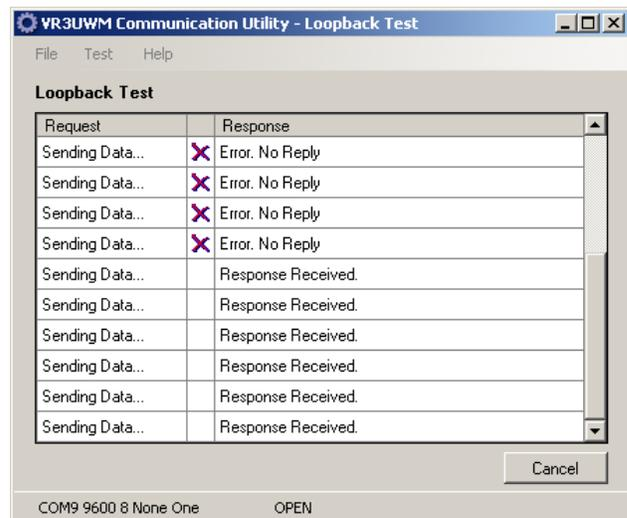

Figure A-2: Loopback test window.
6. Click the “Start” button in the bottom right corner of the Loopback Test window to start the test signal. This signal will be sent from the computer every second. When a loopback connector is not attached to the system, the response will be “Error. No Reply” (see sample in Figure A-2).